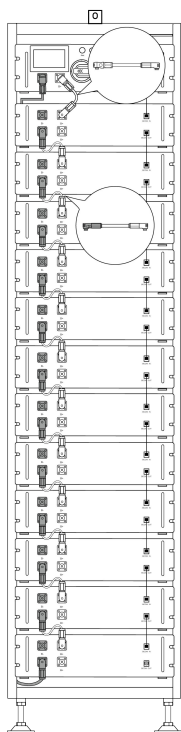
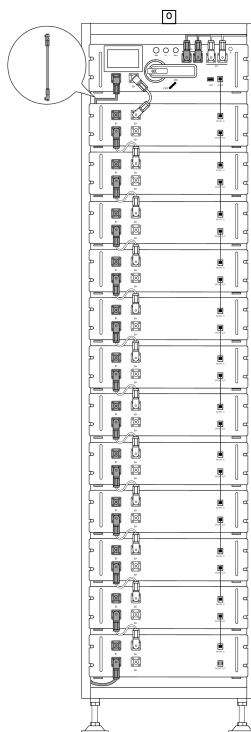

Figure 1-3
Figure 1-4
2. Bcables : See the figure 1-3 and figure 1-4.